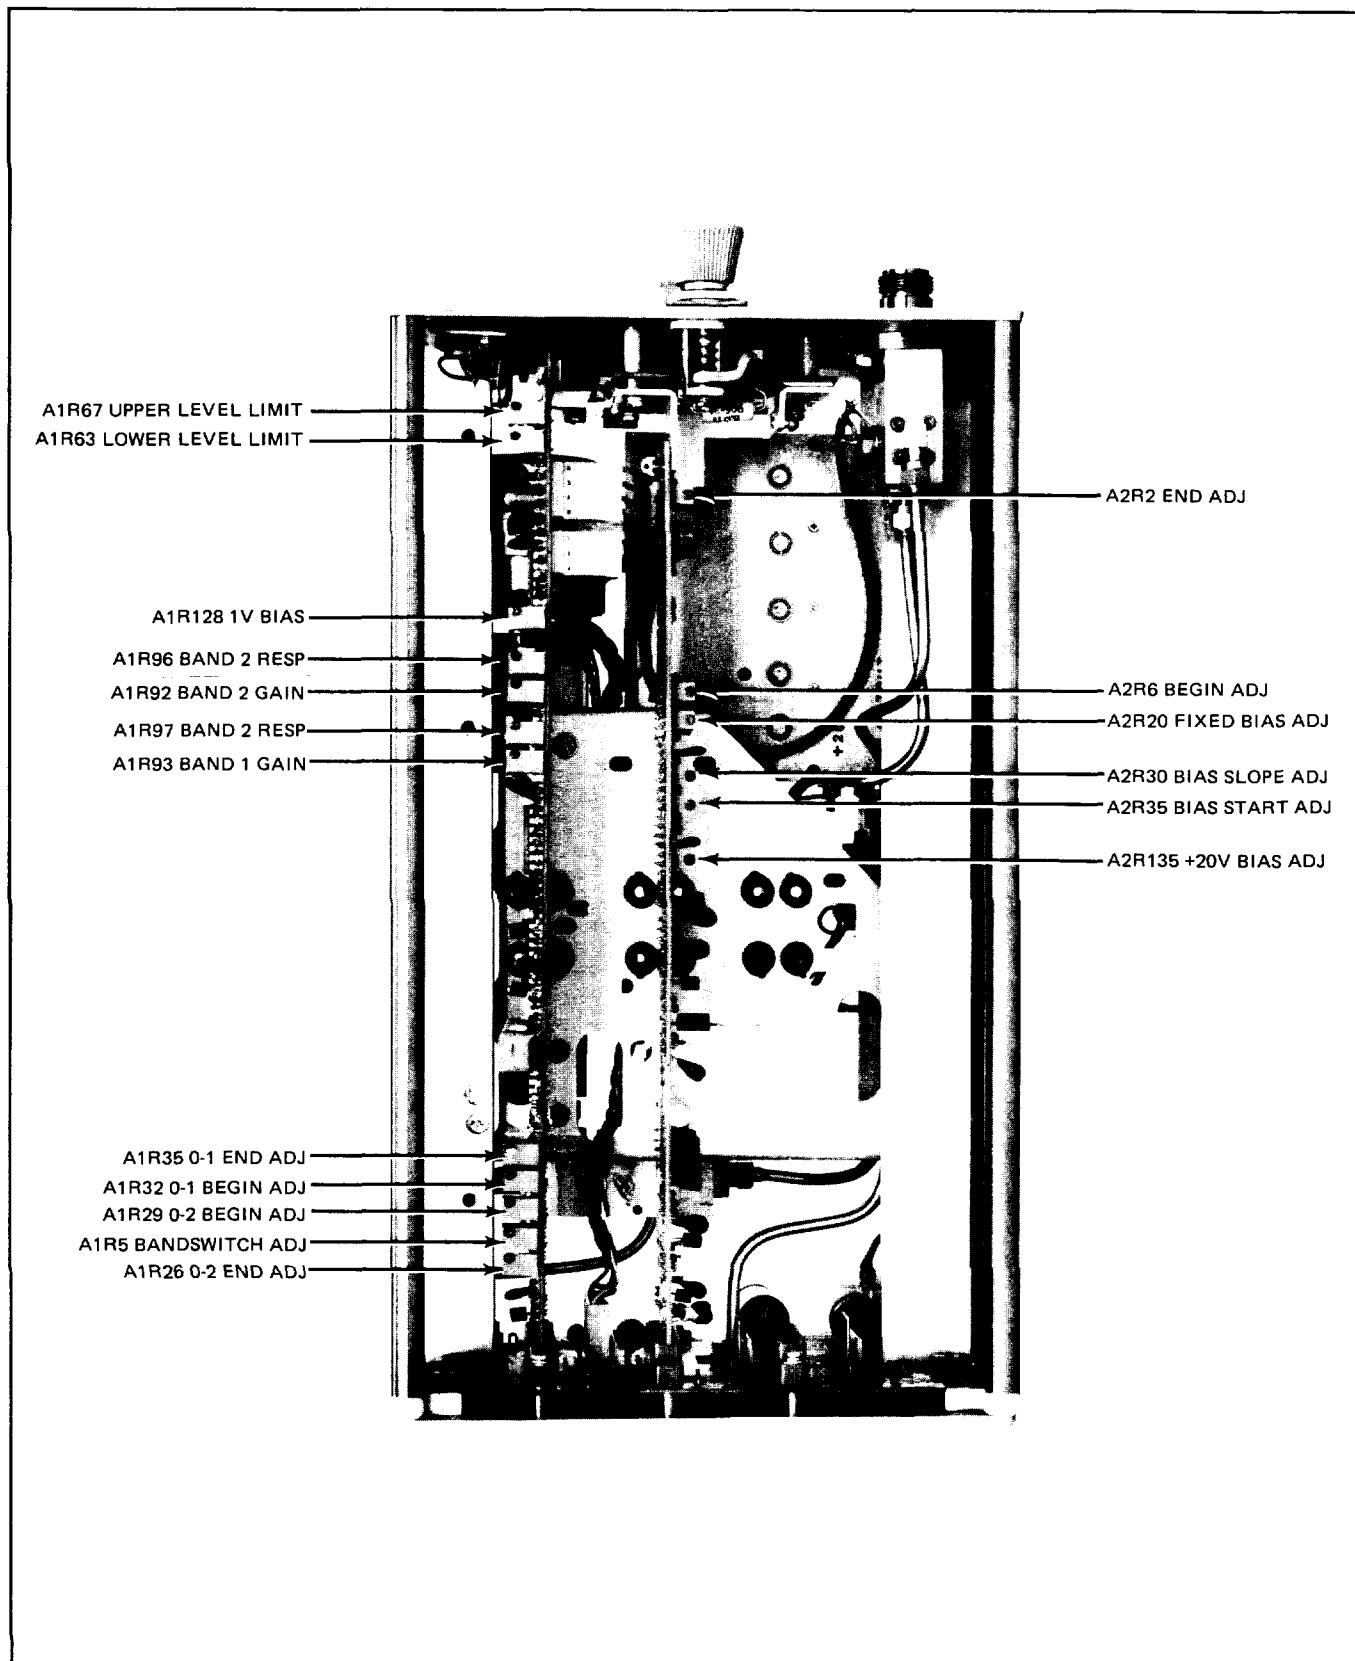
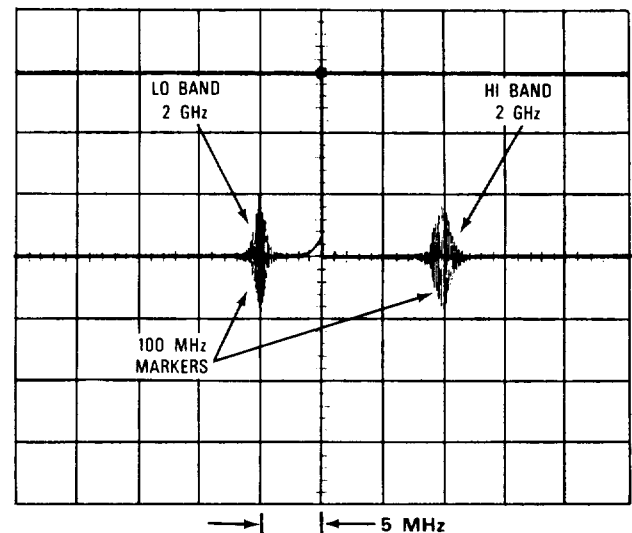

Figure 5-6. 6213D Plug-In, Bottom View
Figure 5-10. Low-Band and Hi-Band 2 GHz Frequency Adjustments
Figures 5-6 and 5-7.
- ① See schematics in Section VI for specific test point waveforms.
- ② See Figures 5-6 and 5-8 for location of test points and adjustments.
- ③ Do NOT exceed +15V.
- e. On the oscilloscope, check that the 10 MHz marker of 10 MHz is ± 25 MHz from the center of the graticule; if not, adjust 0-2 Begin Adj A1R29 (see Figures 5-6 and 5-7 at the end of Section V).
1. As shown in Figure 5-10, check that the lo band 10 MHz marker of 2 GHz is within ± 25 MHz from the center of the graticule; if not, adjust 0-2 End Adj A1R26 (Figures 5-6 and 5-7).
2. As shown in Figure 5-10, check that the hi band 10 MHz marker of 2 GHz is within ± 25 MHz from the center of the graticule; if not, adjust Begin Adj A2R6 (Figures 5-6 and 5-8).
- m. On the oscilloscope, check that the 10 MHz marker of 4.2 GHz is ± 25 MHz from the center of the graticule; if not, adjust End Adj A2R2 (Figures 5-6 and 5-8).
- r. On the oscilloscope, check that the 10 MHz marker of 1 GHz is within ± 25 MHz from the center of the graticule; if not, adjust 0-1 End Adj A1R35 (Figures 5-6 and 5-7).
- t. On the oscilloscope, check that the 10 MHz marker of 10 MHz is within ± 25 MHz from the center of the graticule; if not, adjust 0-1 Begin Adj A1R32 (Figures 5-6 and 5-7).
2. Adjust Lower Level Limit A1R63 and Upper Level Limit A1R67 until the detected RF output in the 2-4.2 GHz portion of the sweep will no longer decrease (Figures 5-6 and 5-7).
3. Adjust 1V Bias Adj A1R128 until detected RF output just begins to increase (Figures 5-6 and 5-7).